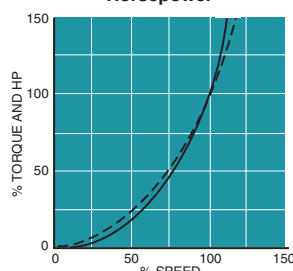

Figure 23. Cubed Exponential Horsepower
4. Cubed Exponential Horsepower (Figure 23)